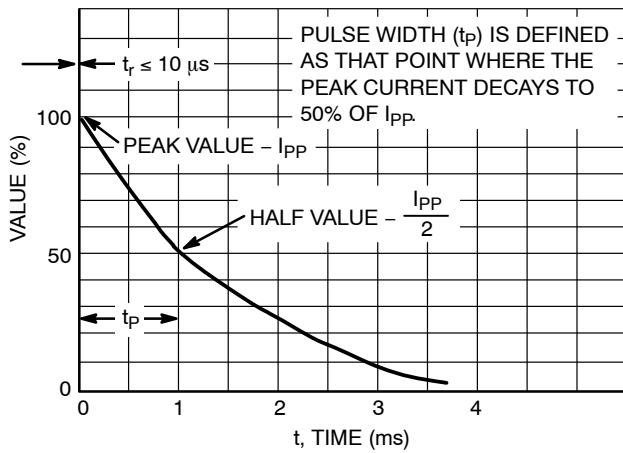
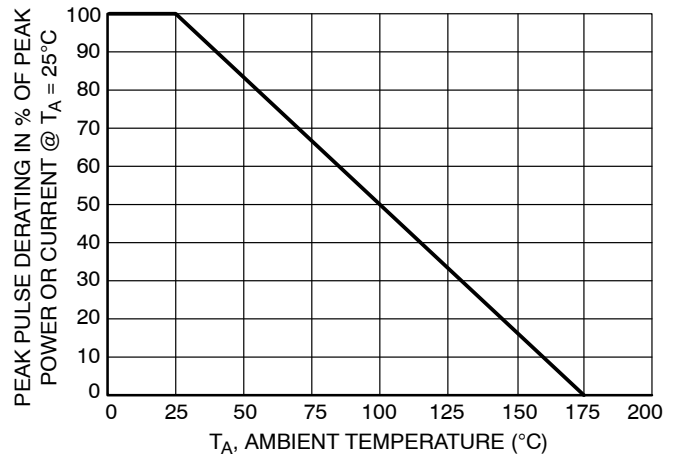

Figure 6. Pulse Waveform
Figure 7. Pulse Derating Curve
1. Non-repetitive current pulse per Figure 6 and derate above $T_A = 25^\circ\text{C}$ per Figure 7.
5. Surge current waveform per Figure 6 and derate per Figure 7.